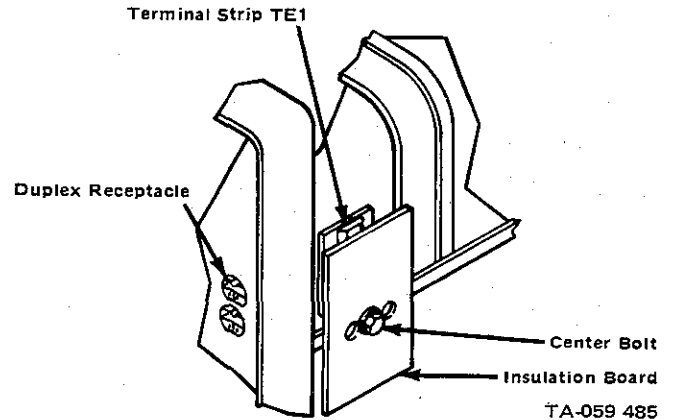

Figure 5-5. Location Of Reconnectable Components
2. Remove center bolt from insulation board (see Figure 5-5), remove and retain insulation board.
3. Remove 120 VOLTS AC duplex receptacle RC1 located on front panel (see Figure 5-5). Remove leads and allow to hang free.